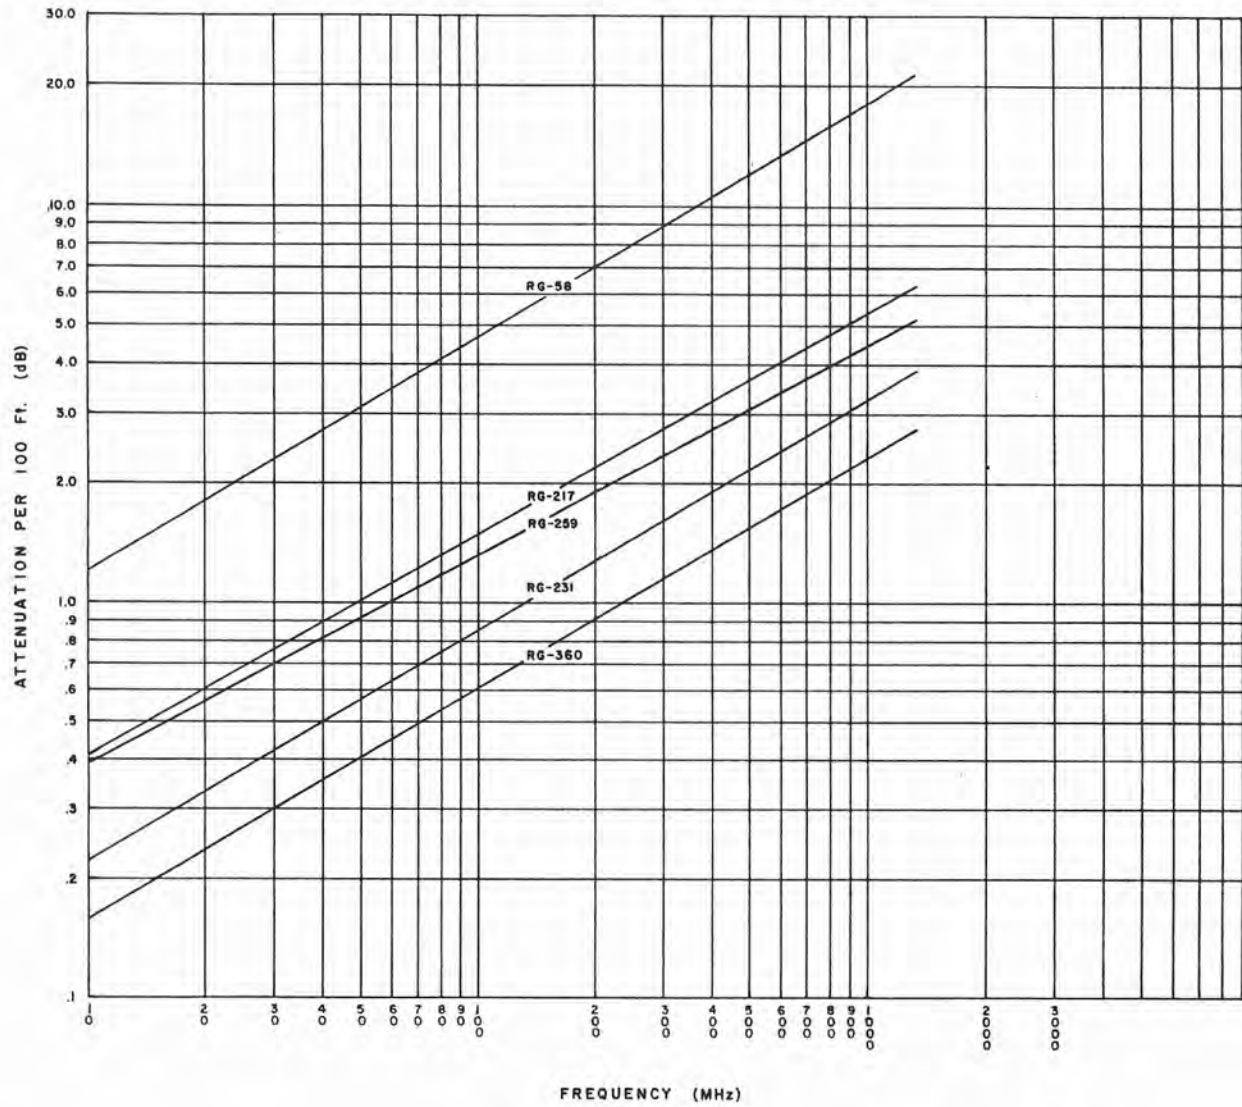

Figure 2-6. Frequency Vs Loss Characteristics of Typical RF Cables.
2.3.2.3 Preselector Gain Setting - The preselector gain controls are set to accommodate the gain requirements of the receiver installation. Gain can be set to introduce a flat gain response across the entire 20 to 1100 MHz frequency range, or it can be set to provide a gain slope that increases logarithmically from 20 MHz to 500 MHz, or 1100 MHz. For installations using long lengths of RF cable, it is often desirable to use one of the slope gain modes (AT 1100 MHz or AT 500 MHz) to compensate for frequency dependent cable losses. Review the characteristics of the cable used to determine the total loss that will be experienced for the length of cable. Select the gain settings that most closely match the calculated losses. **Figure 2-6** illustrates typical frequency vs. loss characteristics of various types of RF cable. Selection of the various gain modes is performed as follows: